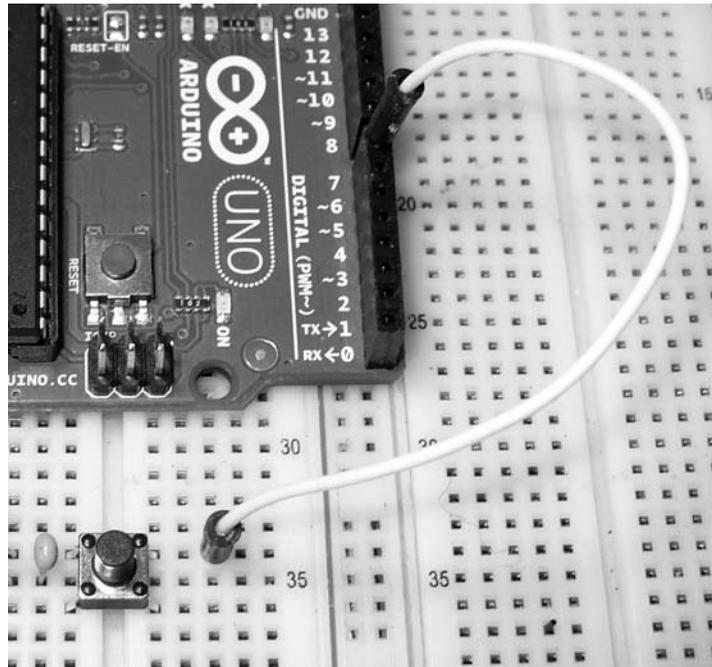

Figure 4-23: Connecting the button to the digital input
- Run a wire from Arduino digital pin 7 to the breadboard near the top-right corner of the button, as shown in Figure 4-23.